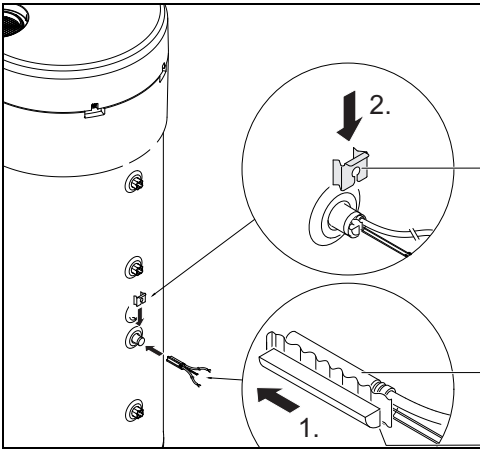

Fig. 11
- ▶ Install the installation set [1], the temperature sensor NTC of the accessory [2] and position them as shown in Fig. 11.